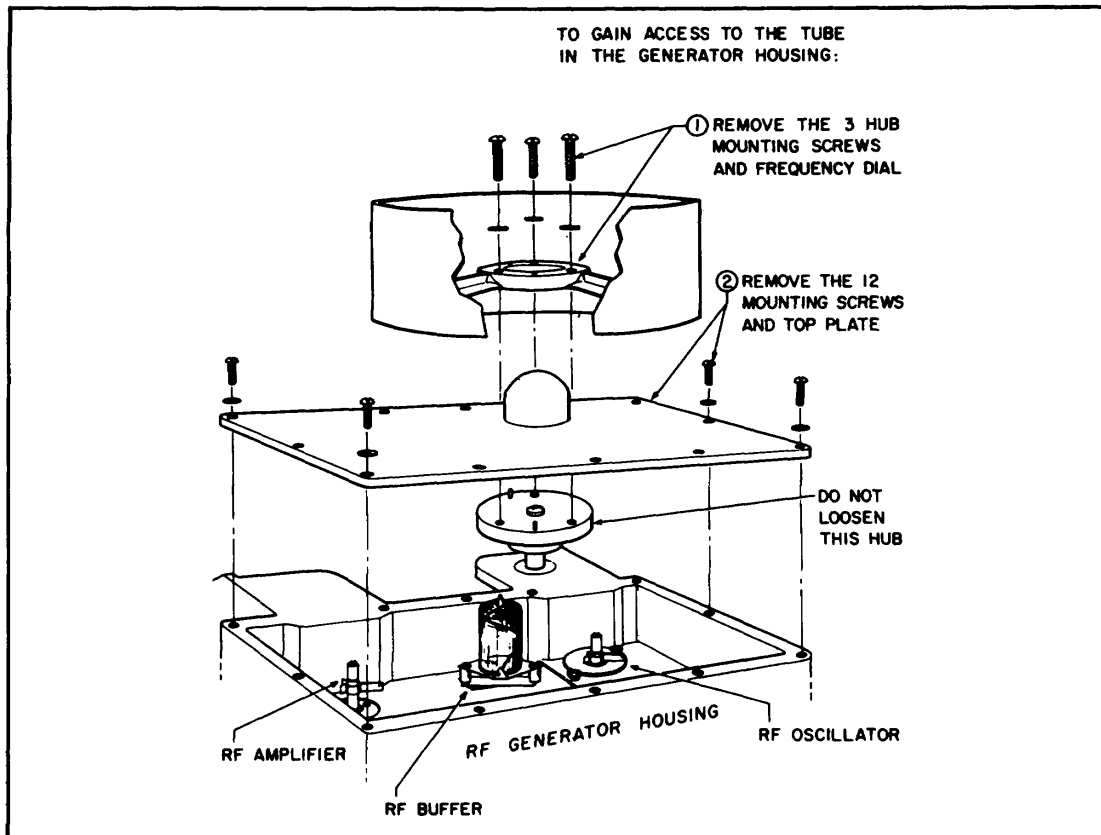

Figure 6-1. Diagram Showing Access to R-F Oscillator, Buffer and Amplifier Tubes
- a. To gain access to the r-f tubes, remove signal generator from cabinet and remove frequency dial and tube compartment top plate as shown in Figure 6-1.
a. With signal generator removed from cabinet, refer to Figure 6-1 and remove frequency dial assembly.